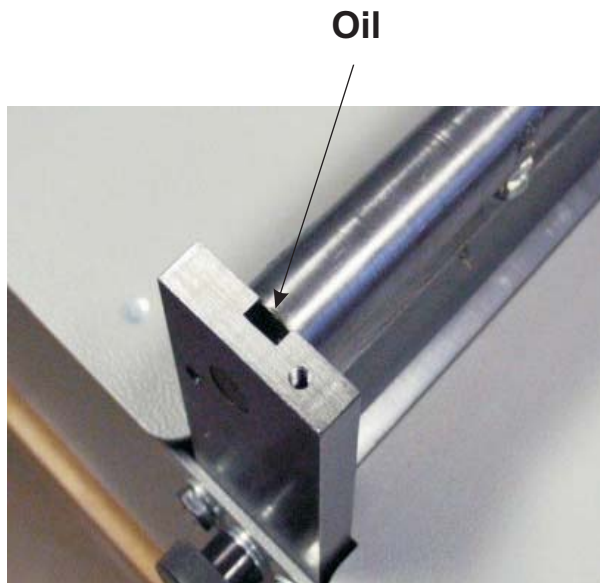
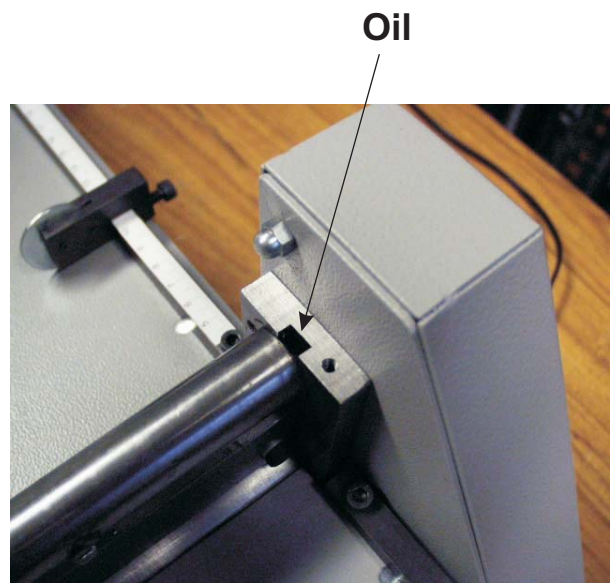

FIG.1
FIG.2
2. Trickle oil into the slots, at both ends of the shaft, as shown in FIG.1 & FIG.2.